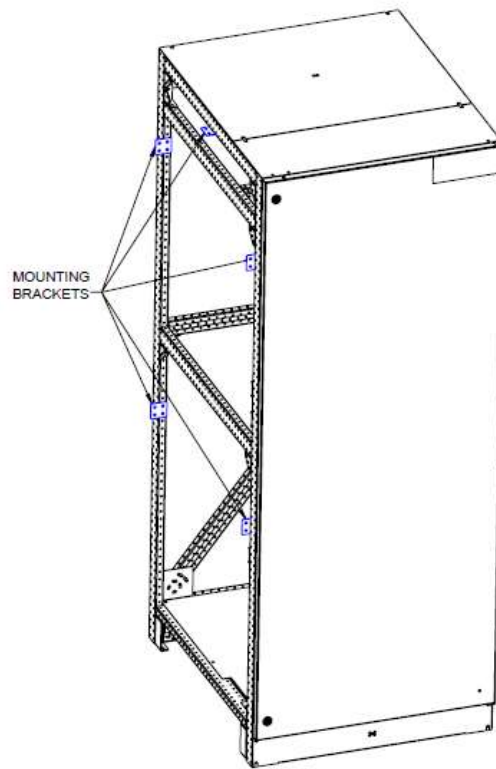

Figure 4.8.2 – Additional sidecar cabinet mounting brackets
If an additional sidecar cabinet is provided it will need to be aligned with the right side of the cabinet which houses the subfeed breakers. Additional cabinet will have (5) mounting plates pre-installed. Ensure that these mounting plates are clean and free of dirt, debris, or rust. Refer Figure 4.8.2.